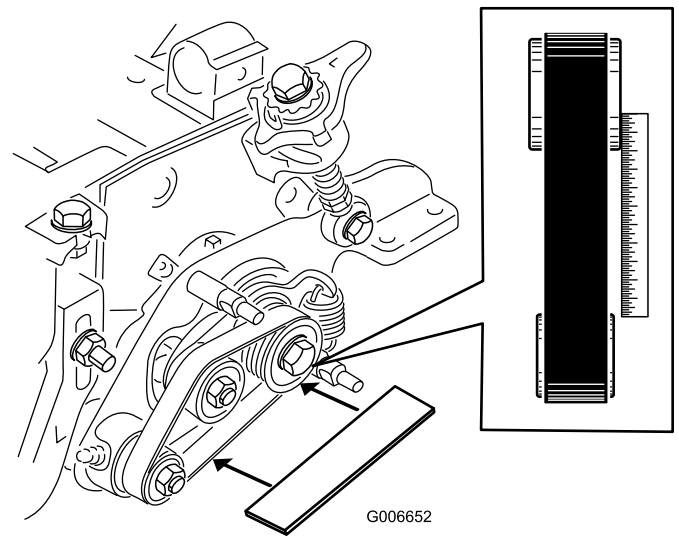

Figure 27
- Lay a straight edge along the outer face of the **drive** pulley (Figure 27).